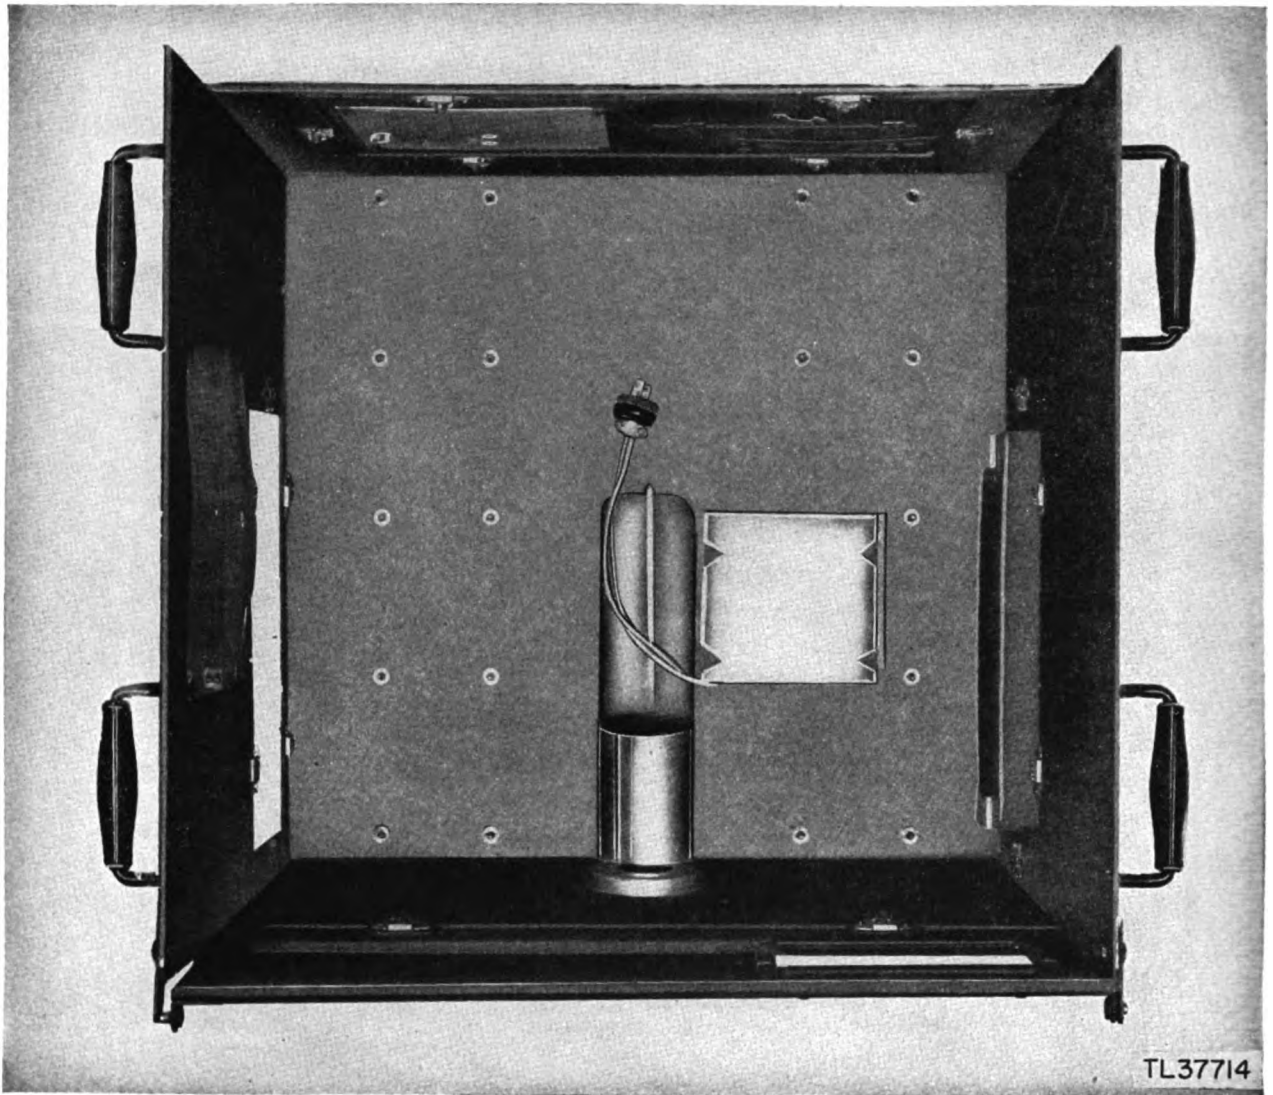

Figure 36. Transmitter case.
(5) Inspect the bias control and vernier tuning for mechanical action (par. 31).
(6) Tighten all mountings, screws, and brackets where necessary.
(7) Clean the front of the transmitter chassis.
**ITC. TRANSMITTER CASE (fig. 36).**
(1) Inspect the blower motor for signs of overheating. This must be done as soon as possible after the power is turned off (par. 29).
(2) Inspect the air filters for dirt accumulation (par. 36).
(3) Clean the inside and outside of the case.
(4) Tighten all mountings, screws, and brackets where necessary.